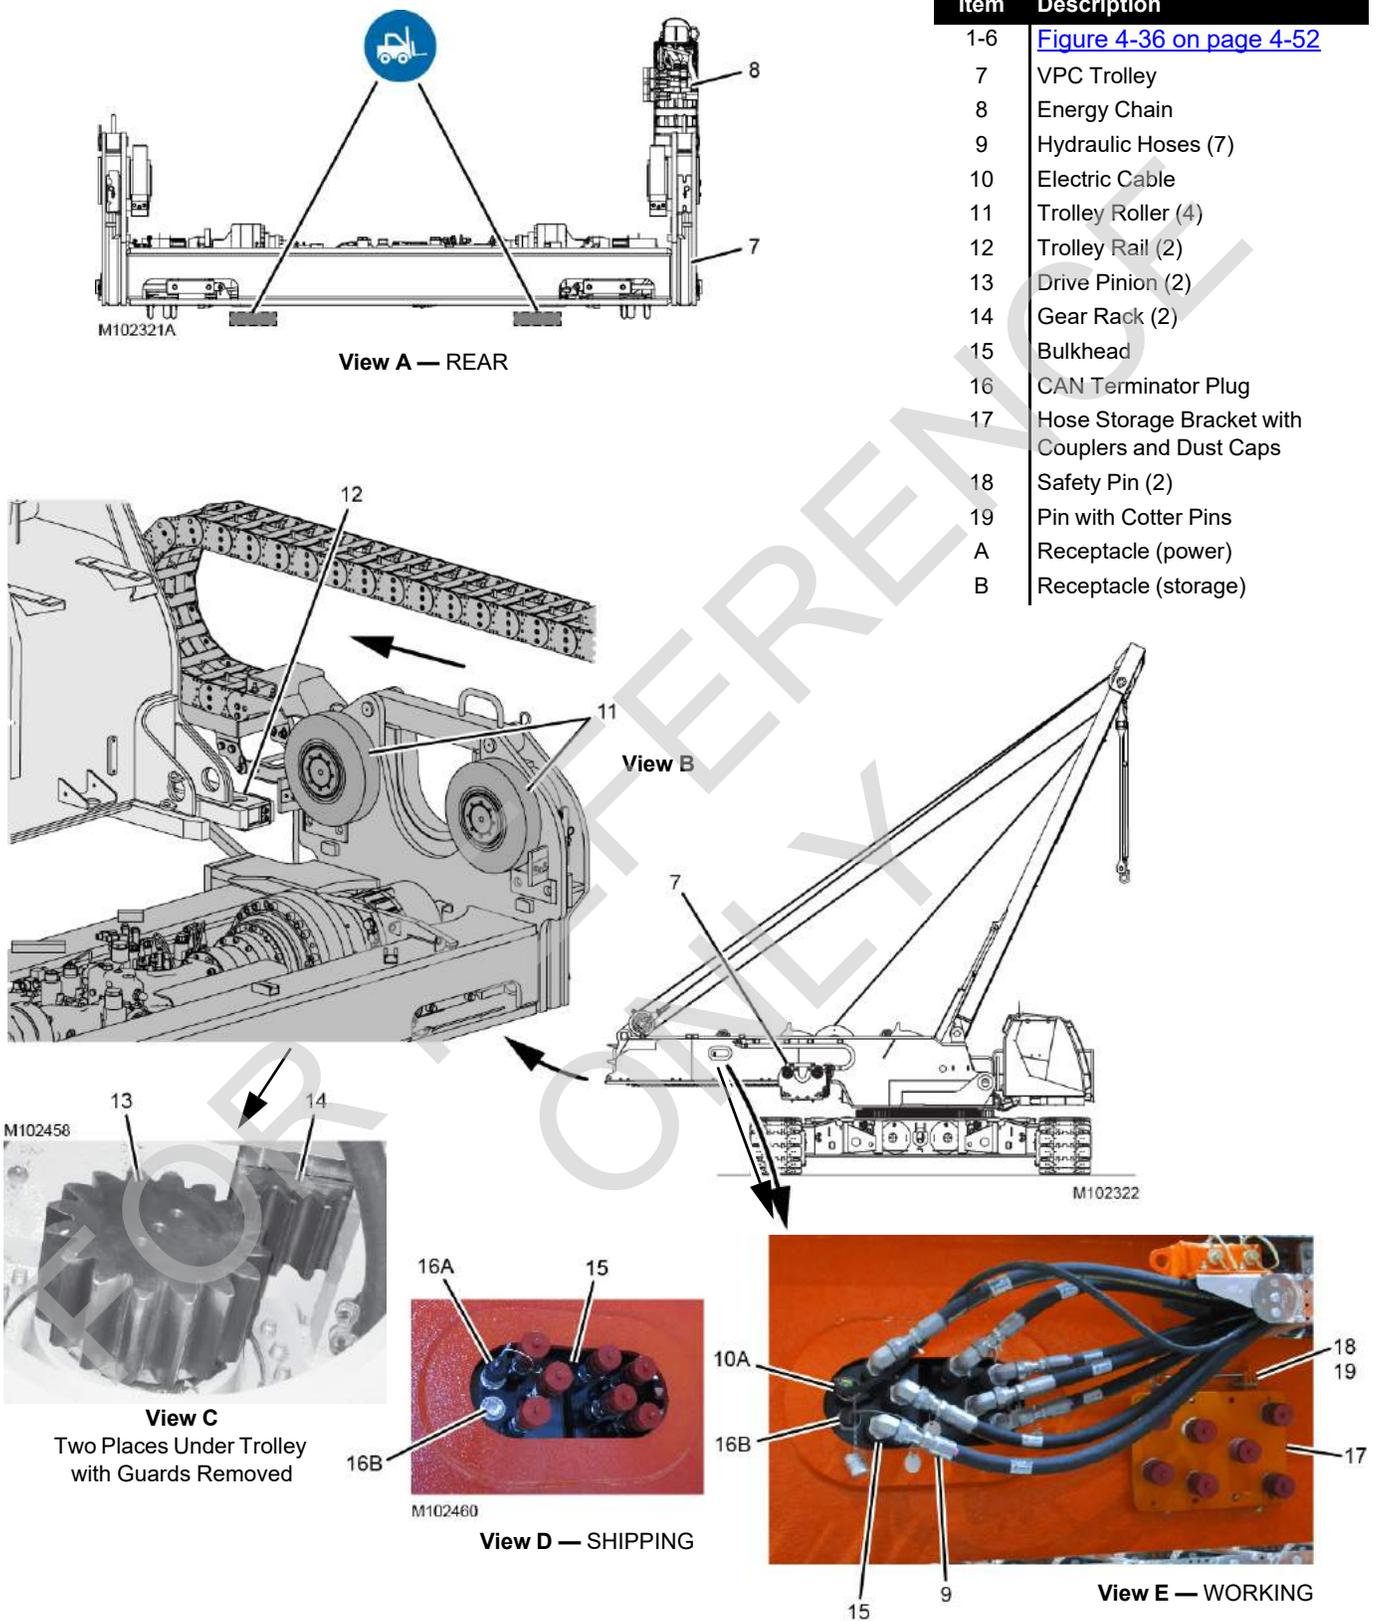

Figure 4-38
9. Attach a sling from the fork of the forklift or from an assist crane to the lifting link (14, View B) on the energy chain (3).
10. Lift the energy chain out of the energy chain supports (12 and 13, View B) and roll the energy chain (3) forward onto the energy chain support (4, View H).
13. Hold the hose storage bracket (10, View G) so it cannot fall and remove the safety pins (16) and the pivot pin (17) securing the bracket to the VPC trolley.
16. Install the hose storage bracket on the right side of the rotating bed AFTER the VPC trolley is installed. See Figure 4-38 on page 4-56.
See Figure 4-38 for the following steps.